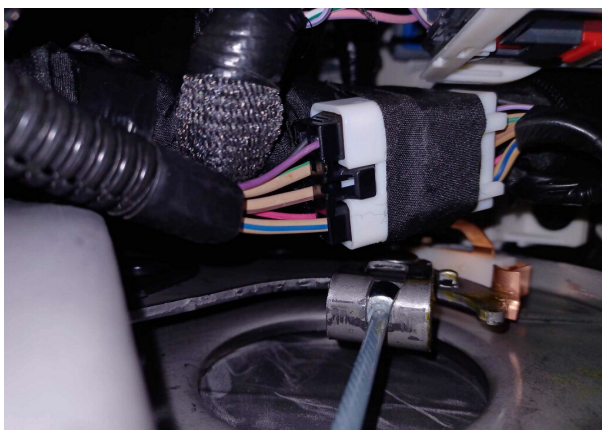

Figure 13 - "D" Upfitter Connector Location & Upfitter Harness
2. Crimp pin supplied with harness on pink wire from the Port Upfitter Connector "D1" (BLK male connector to WHT female connector) located under dash near park brake bracket and steering column. Reference Figure 13 for connector location.